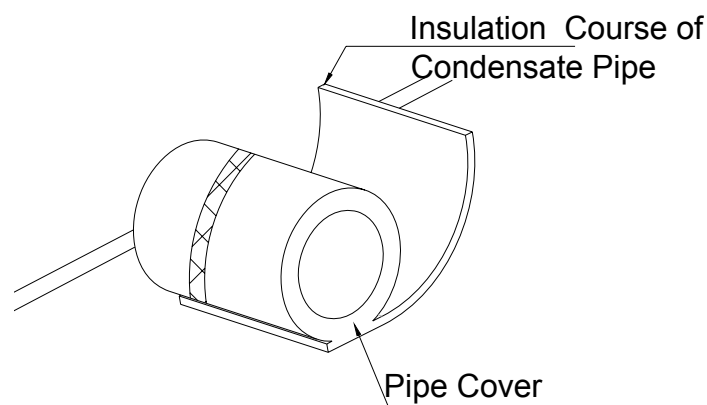

Figure 1-1-10
- ◆ The Drainage Pipeline shall be installed with an inclining angel of  $5\sim 10^\circ$ , so as to facilitate the drainage of condensate. The joints of the Drainage Pipeline must be covered by thermal insulation materials to avoid generation of exterior condensate. (As shown in Figure 1-1-10)